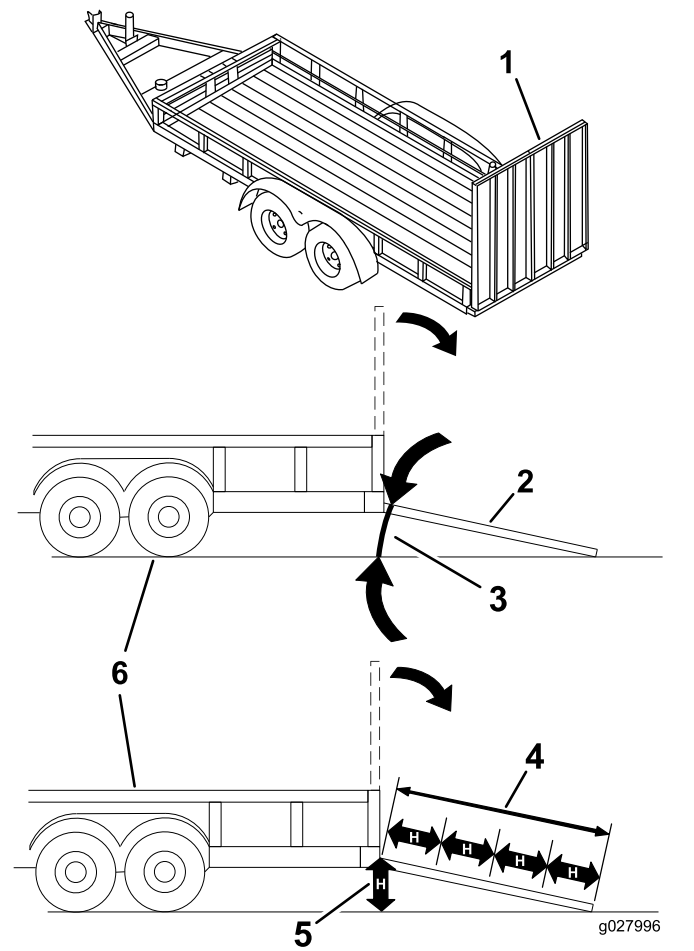

Figure 27
Loading a machine onto a trailer or truck increases the possibility of tip-over and could cause serious injury or death (Figure 27).
3. Lower the ramp, ensuring that the angle between the ramp and the ground does not exceed 15 degrees (Figure 27).
1. Lower the ramp, ensuring that the angle between the ramp and the ground does not exceed 15 degrees (Figure 27).